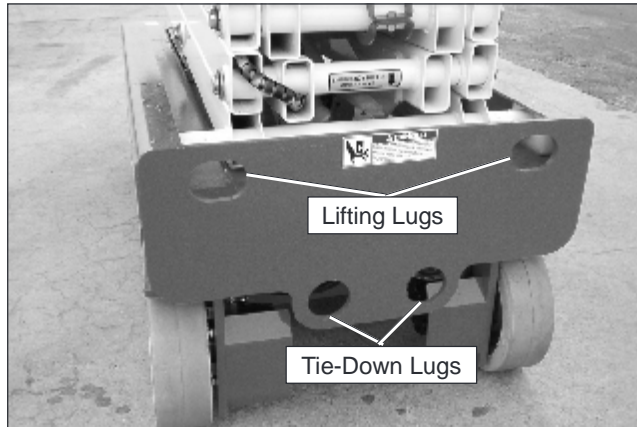

Figure 10.6 – Front of Chassis
10. Attach the winch line to the tie-down lugs (refer to Figure 10.6) on the front of the chassis.
2. Inspect the front lifting lugs and the rear lifting lugs (refer to Figures 10.6 and 10.7) to make sure they are free of cracks and are in good condition. There are two lugs on the rear of the chassis and two on the front. Have any damage repaired by a qualified service technician before attempting to hoist the machine.